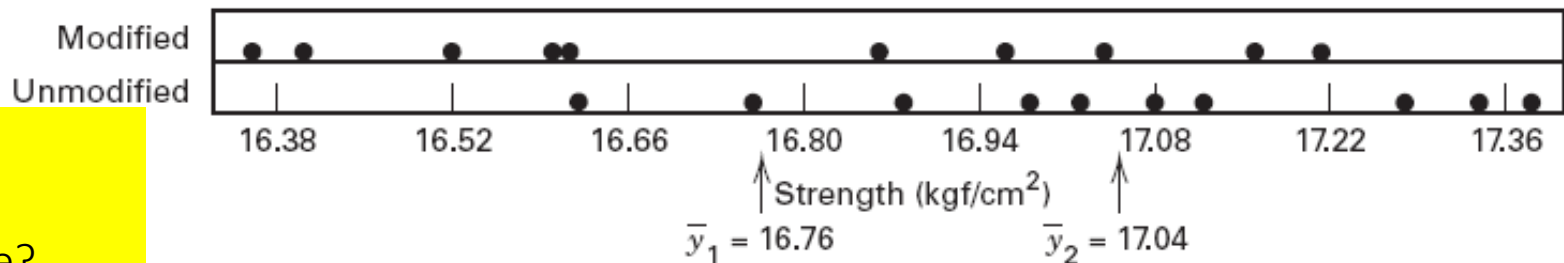

FIGURE 2.1 Dot diagram for the tension bond strength data in Table 2.1
■ **FIGURE 2.1** Dot diagram for the tension bond strength data in Table 2.1